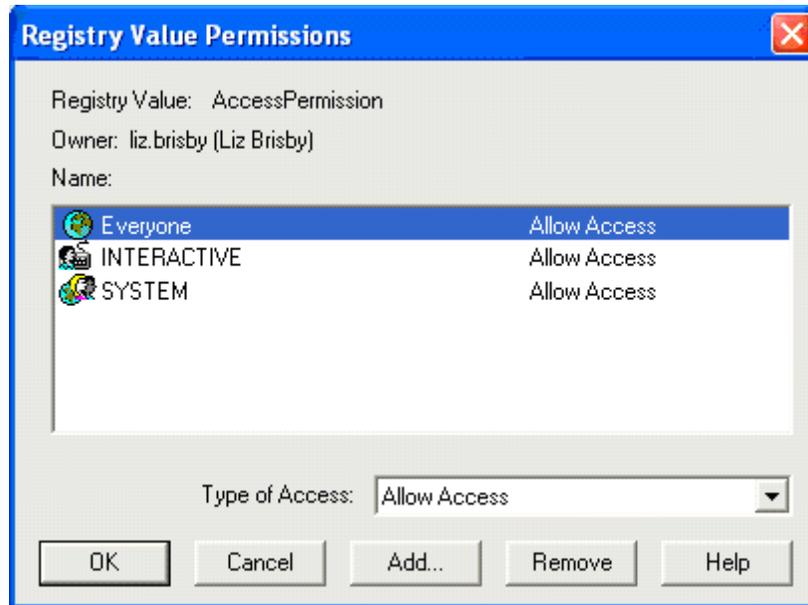

Figure 38 - Registry Value Permissions Window
8. The **Registry Value Permissions** window (Figure 38) appears.